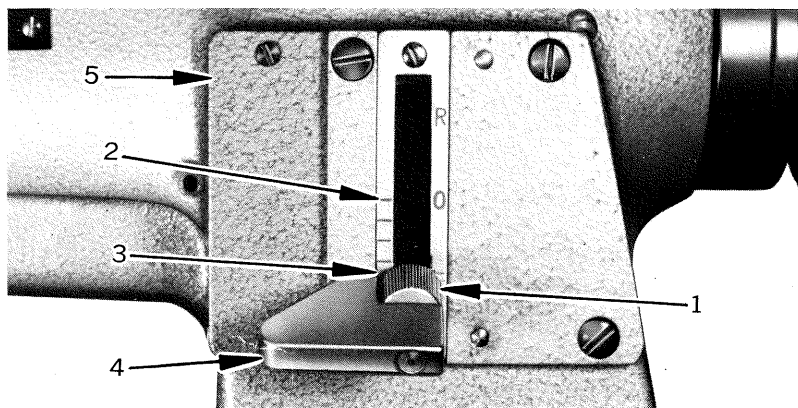

Fig. 11
ADJUSTING THE STITCH LENGTH (Fig. 11)
2. Remove the cover (5, Fig. 11)
2. Pushing the stitch length regulating lever (4, Fig. 11) up and down, turn the cam (2, Fig. 21) and set at the point both the needle and the feeder rest.